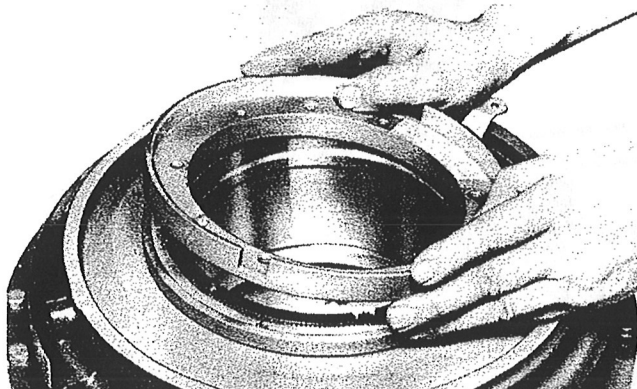

Figure 53—Removing Adapter Plate
(4) Remove the regulator adapter plate. (See figure 53.)